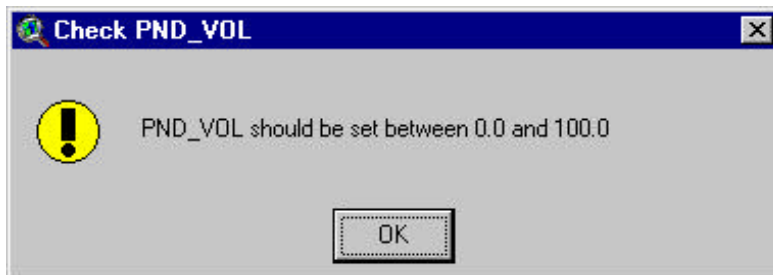

Figure 12.86
3. Edit data: Activate a parameter text box by clicking on it. Type the desired value. You can move to the next parameter text box by pressing the **Tab** key. If the value of the parameter is out of range, a message box like the one in Figure 12.86 pops up.